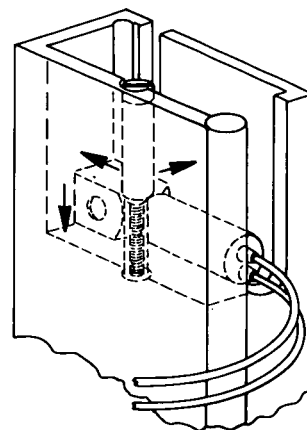

Figure 18
2. Remove the two screws securing the lamp compartment cover and remove the cover. See Figure 18.
- Place the lamp in the lamp channel with the lamp light slit toward the light slit in the lamp channel. Push the lamp to the bottom of the lamp channel, install and firmly tighten the lamp retainer screw and sleeve in the channel to secure the lamp. The lamp must be held tightly in the proper position, flush against the bottom, end, and light slit side of the lamp channel. See Figure 18. Connect the lamp leads of the new lamp assembly at the lamp terminals (lead orientation does not matter). Do not overtighten.